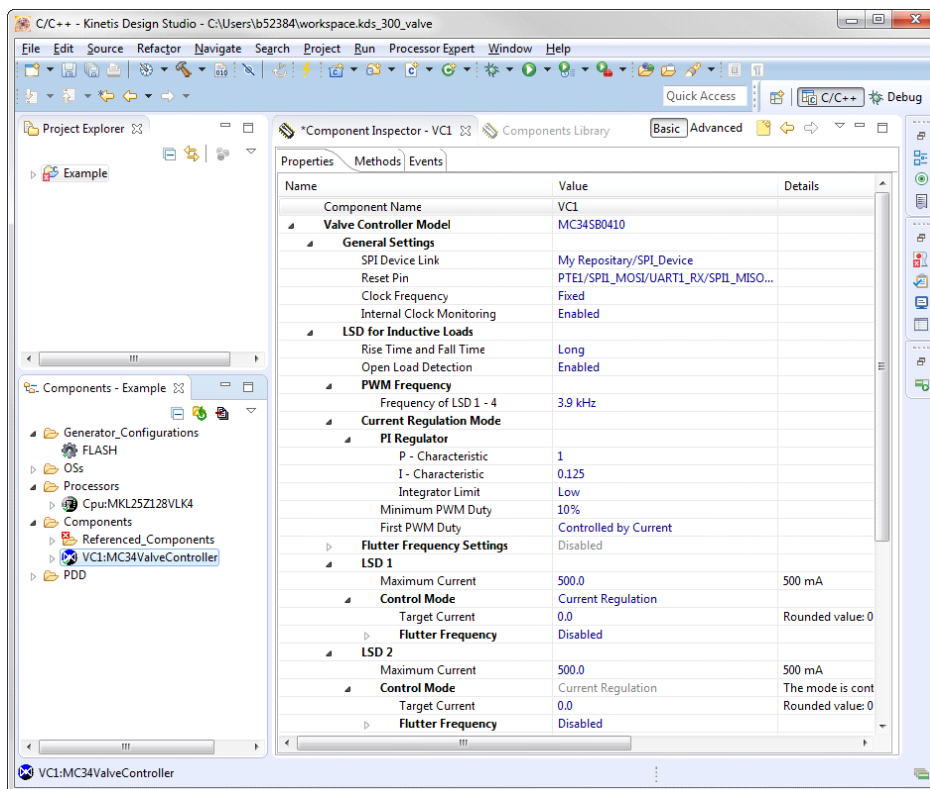

Figure 16. Show the Component Inspector
2. Figure 16 shows the **Components** panel after the component was added. To view the **Component Inspector** options, double-click on the MC34ValveController component in the **Components** panel.